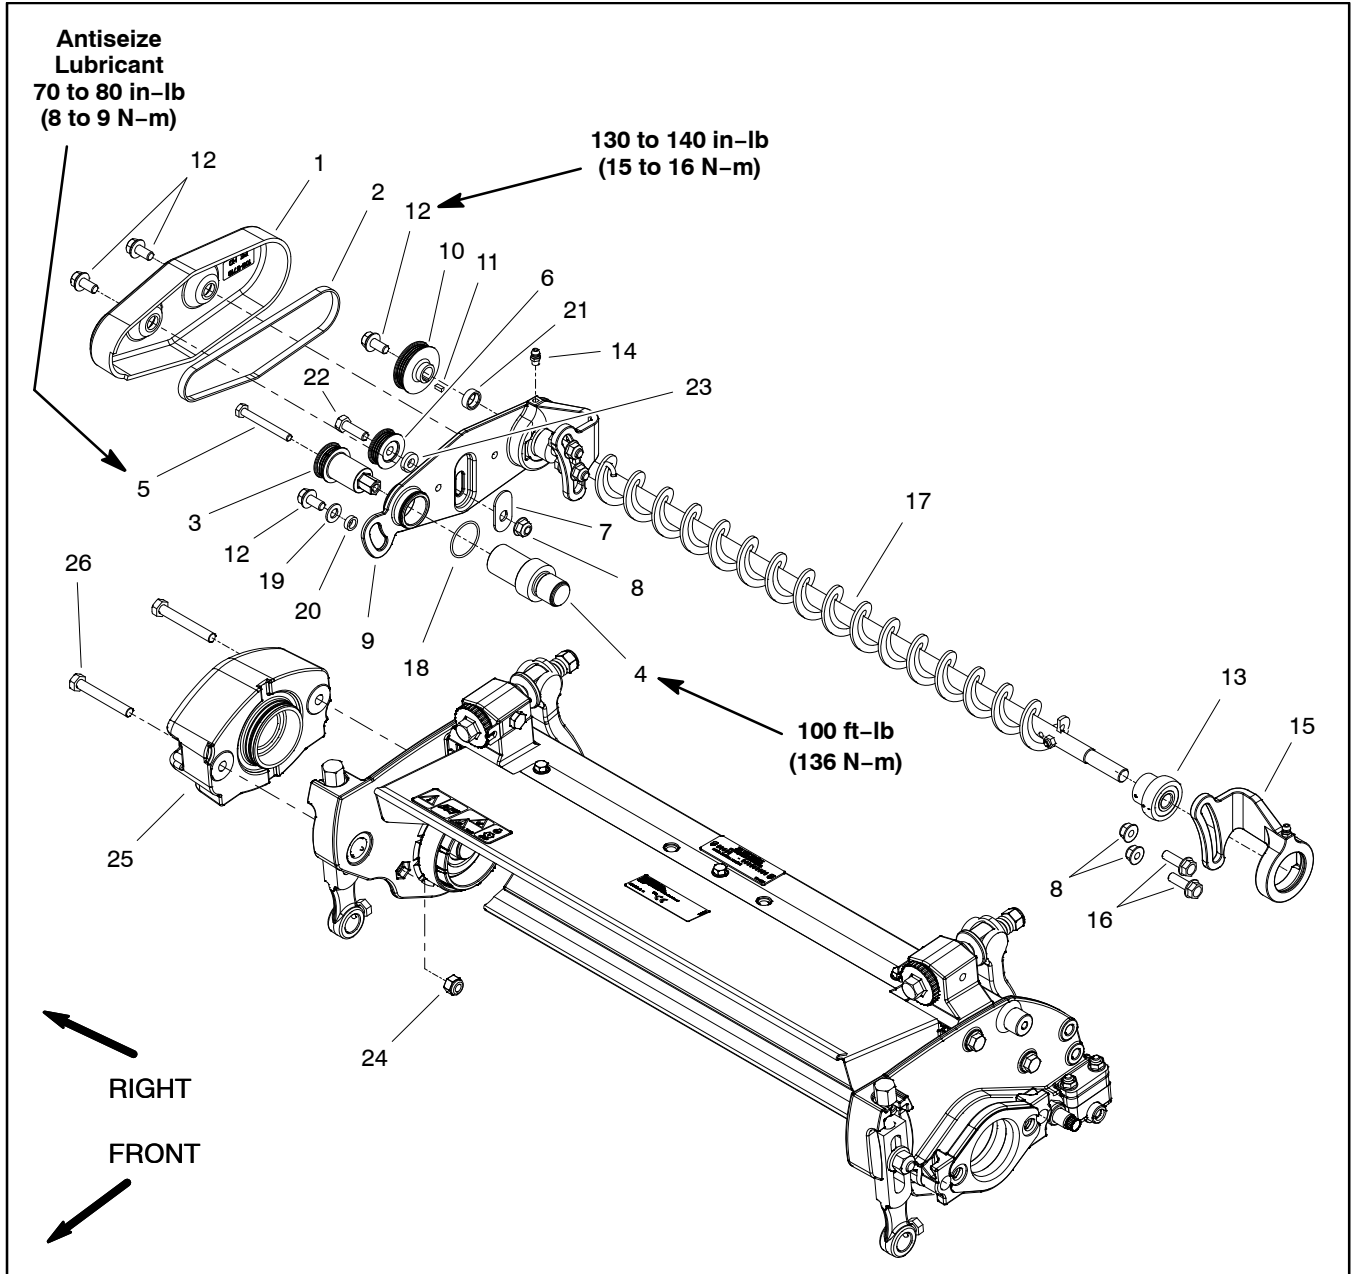

Figure 42
Drive components for the rear roller brush are located on the opposite side of the cutting unit from the hydraulic cutting reel motor. Figure 42 shows components used when the brush drive is on the right side of the cutting unit.
4. Push down on the idler pulley and secure it to the drive plate. Make sure the cover plate (item 7 in Fig. 42) is positioned to prevent debris from entering the drive area.
Refer to Fig. 42 for this procedure.
3. If the pulley driver (item 4 in Fig. 42) requires replacement (machines without a belt driven groomer):